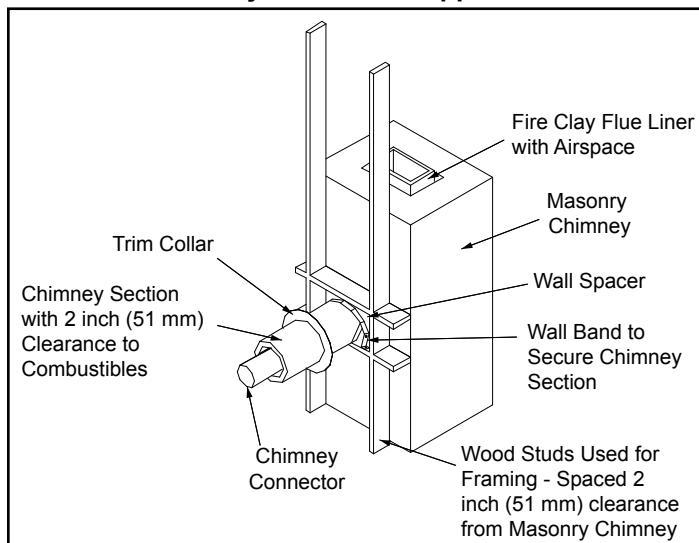

Figure 4.4
3. Construct a 17" x 17" (432 mm x 432 mm) outside dimension frame from 2 x 2 framing lumber to fit into wall opening. Inside opening of frame should be no less than 14" x 14" (356 mm x 356 mm), Figure 4.4.